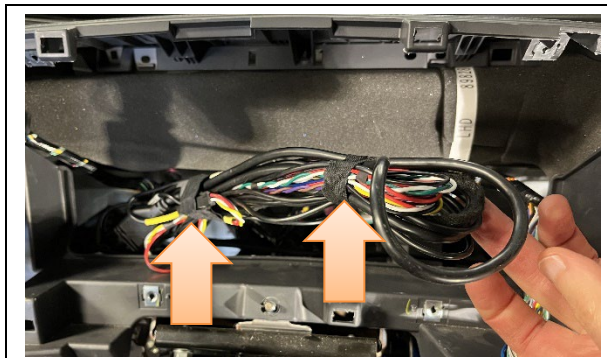

Figure 58
58. Unwrap and discard the tape, around the harnesses and, separate the Mobileye harnesses from the other wires. (See Figure 58.)